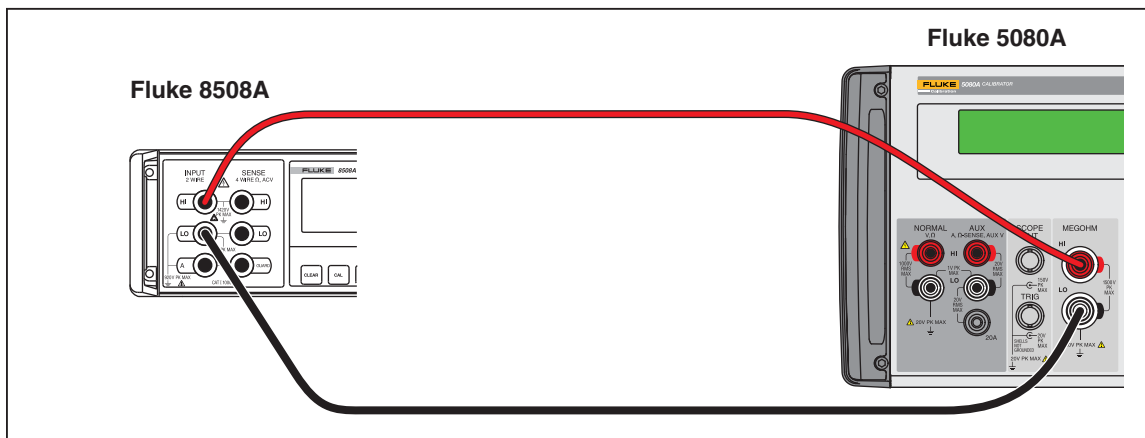

Figure 8. High Resistance Source Calibration Connections
1. Connect the high resistance source output to the input terminals of a standard multimeter in 2-wire configuration as shown in Figure 8.